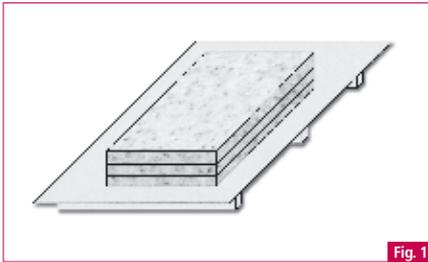

Fig. 1
- 5.1 HI-MACS[®] should always be stored flat on sturdy pallets with a cover board placed on the pallet before stacking the sheets (Fig. 1).